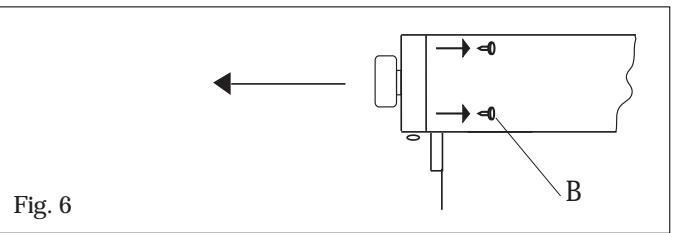

Fig. 6
To disassemble the control panel, unscrew the 4 internal screws (B) fixing the control panel to the oven face (fig 6).